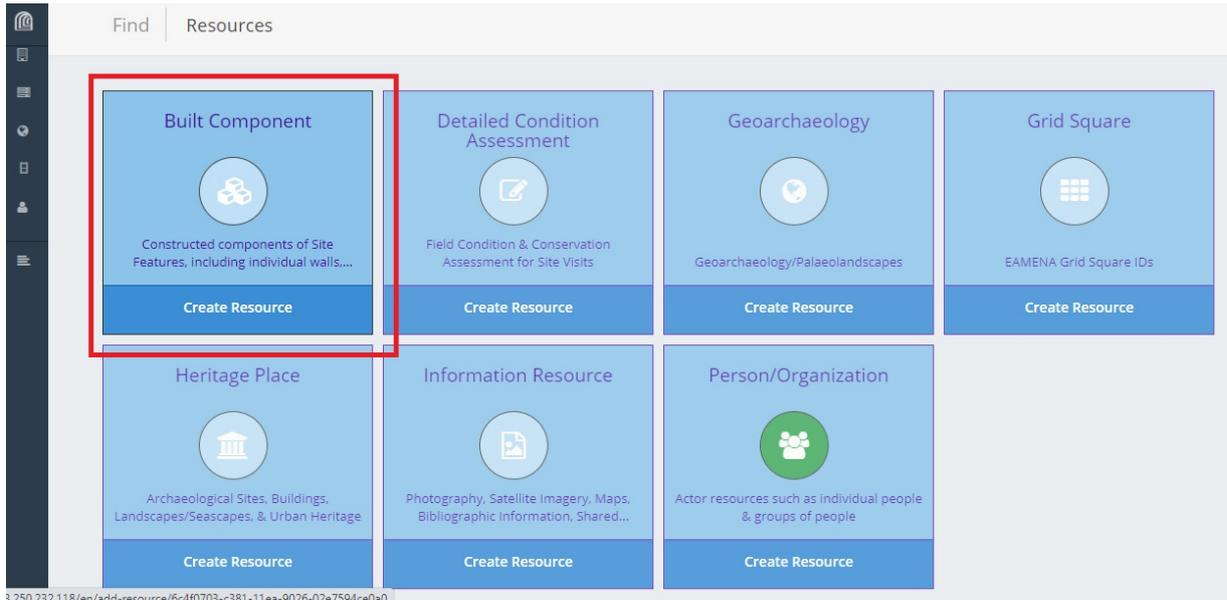

Figure 1: Adding a new Built Component from the Resource Manager page.
- Then click on 'Create Resource' under 'Built Component' (Figure 1).